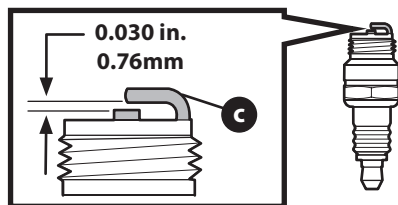

Figure 12
3. Measure the plug gap with a feeler gauge. Correct as necessary by bending side electrode (c) (Figure 12). The gap should be set to 0.030 in (0.76mm).